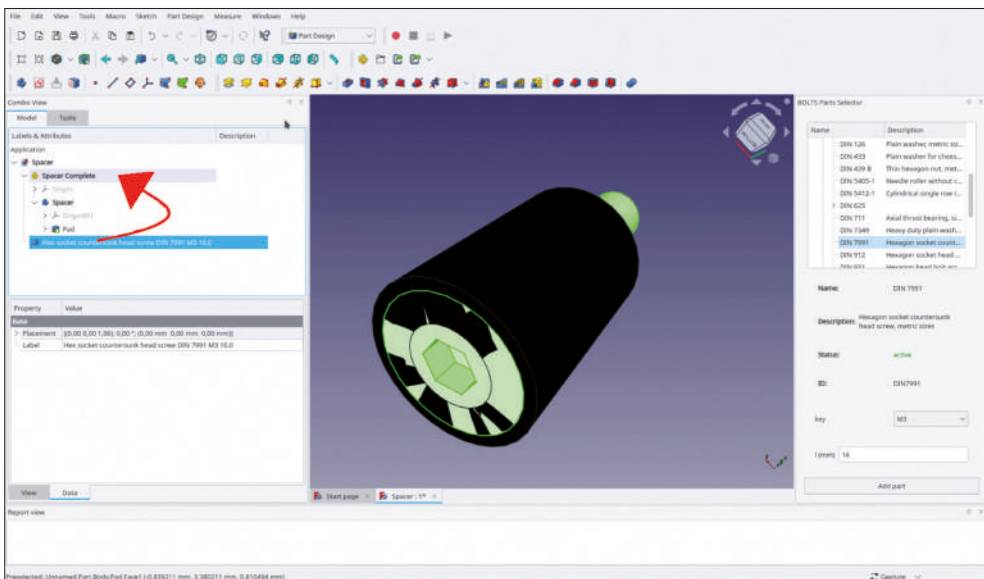

Figure 4-11
4. The screw appears in the 3D view. In the tree view, however, it is not yet listed as a part of the Std-Part-Container 'Spacer Complete'. Also, the surface of the screw head is displayed discontinuously (Figure 4-11).